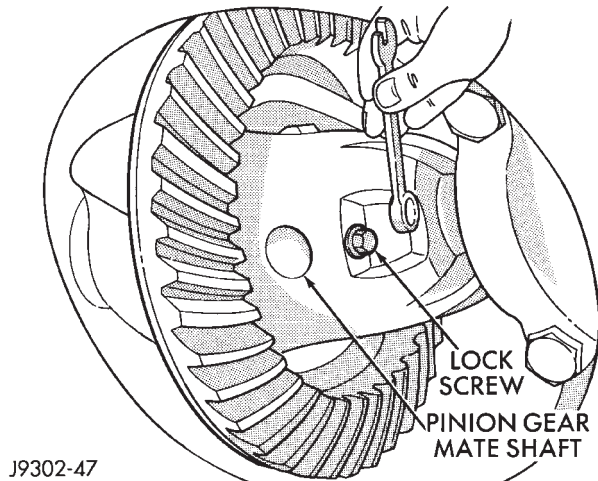

Fig. 43 Mate Shaft Lock Screw
- (3) Remove ring gear, if necessary. Ring gear removal is necessary only if the ring gear is to be replaced. The Trac-lok differential can be serviced with the ring gear installed.
- (4) Remove the pinion gear mate shaft lock screw (Fig. 43).